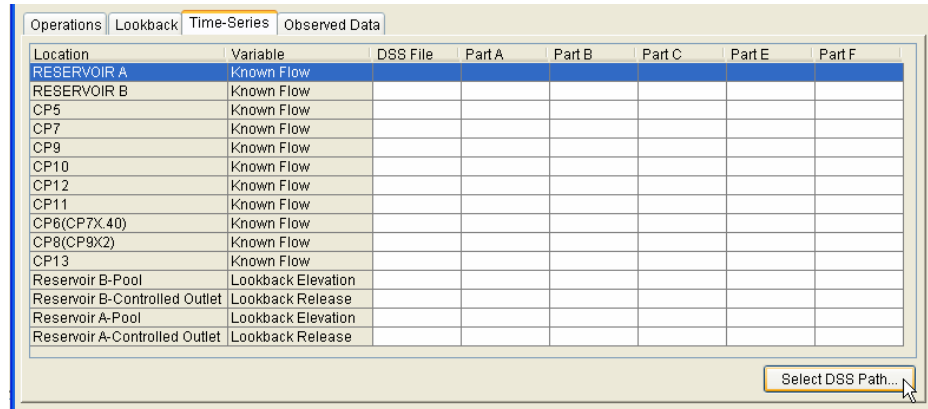

Figure 30 – Alternative Editor, Time-Series Mapping
- On the **Time-Series** tab [Section 13.7] select a row in the time-series mapping table (as shown in Figure 30). Each row in the table represents a *required input* for a local flow location (specified in the Local Flow tab within the Junction editor), an element/parameter you have defined on the Lookback tab as Time Series, or a Time Series that is referenced in the Operation rules. To attach a time-series record to the selected location, press the **Select DSS Path** button.